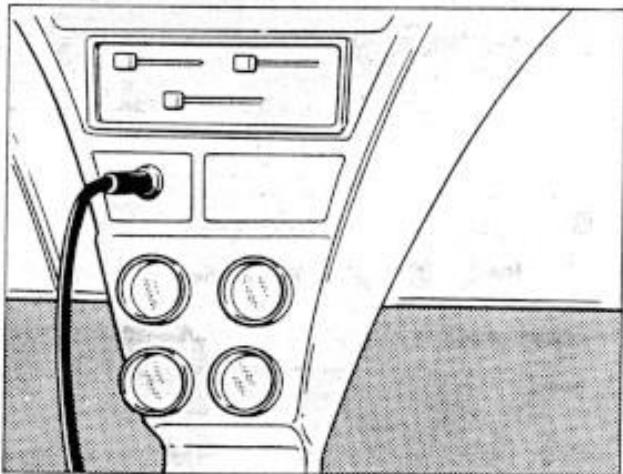

Fig. 6 Use of Cigarette Lighter
- 2) An alternative way of obtaining power is to plug the cigar lighter arranged in most vehicles. Such a plug, shown in Fig. 6, is available at auto accessory shops or electronics parts stores.